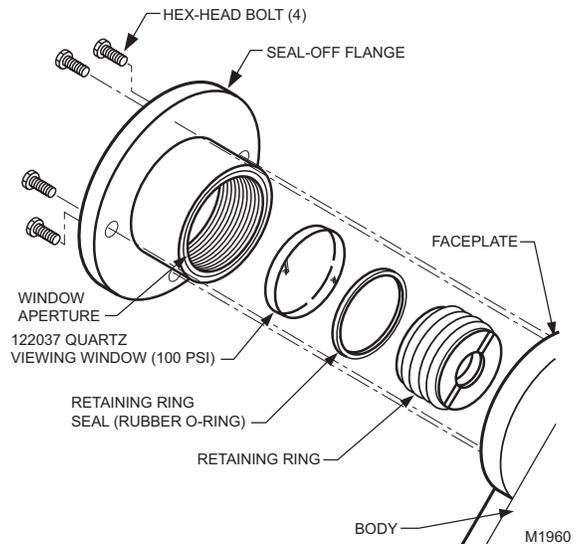

Fig. 13. Replacing quartz viewing window on C7961F.
1. Clean the viewing window (or focusing lens) when necessary. Remove the detector (see Troubleshooting section) and use a clean cloth over the eraser end of a pencil. Do not remove the window (or lens) to clean it. If it is broken or damaged or it is coated with a substance that cannot be removed, replace it (see Fig. 13).
C7961F (Fig. 13)